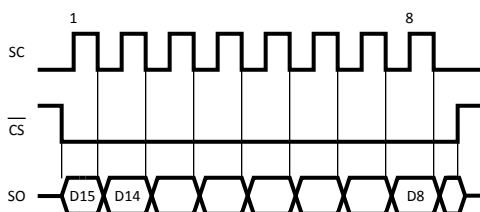

Figure 7. Reading Continuous Conversion - Single Eight-Bit Frame
The LM95071 operates as a slave and is compatible with SPI or MICROWIRE bus specifications. Data is clocked out on the falling edge of the serial clock (SC), while data is clocked in on the rising edge of SC. A complete communication is framed by falling and rising chip select (\overline{CS}) signal. The \overline{CS} signal should be held high for at least one clock cycle (160 ns minimum) between communications. The transmit-only communication (register read) consists of 16 clock cycles. A complete transmit/receive communication will consist of 32 serial clocks (see Figure 7). The first 16 clocks comprise the transmit phase of communication, while the second 16 clocks are the receive phase.